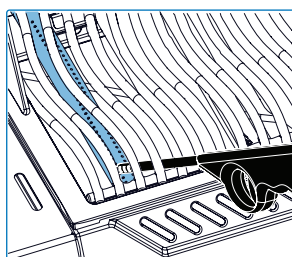

Fig. 11
4. If the pilot and burner will not light in 5 seconds – turn the control knob clockwise to the OFF position. Wait 5 minutes for gas to dissipate. Repeat steps 2 and 3, or see “Alternative Ignition Instructions” below (**Fig. 11, Fig. 12**).
1. Open burner/grill lid **(Fig. 11, Fig. 12)**